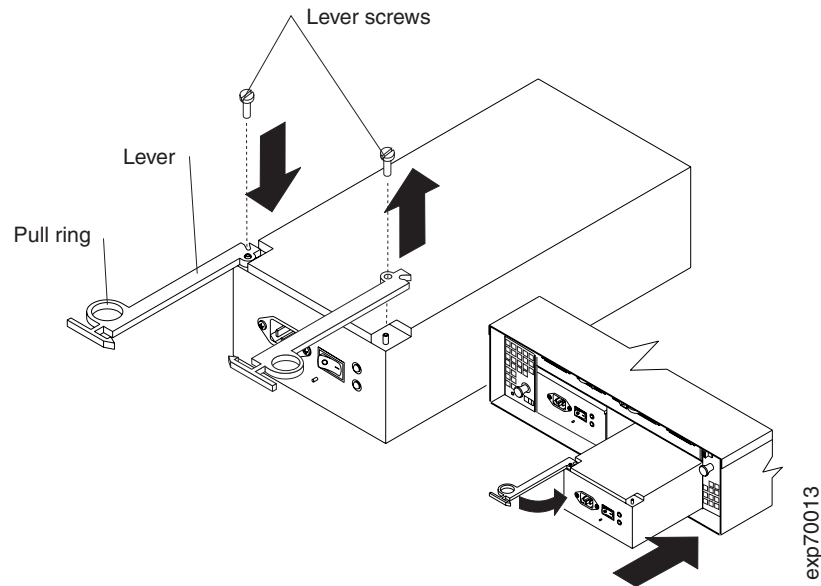

Figure 56. Moving the power-supply lever and replacing the failed hot-swap power supply
Note: When you replace the failed power supply, ensure that the new power-supply lever is attached to the side of the power supply that faces the middle of the storage expansion enclosure. If it is not, remove the lever screw, flip the lever over, and tighten the screw on the opposite side as shown in Figure 56 on page 73.
- a. Slide the power supply into the storage expansion enclosure. Be sure the lever is pulled straight out as you slide the power supply into the storage expansion enclosure (see Figure 56).